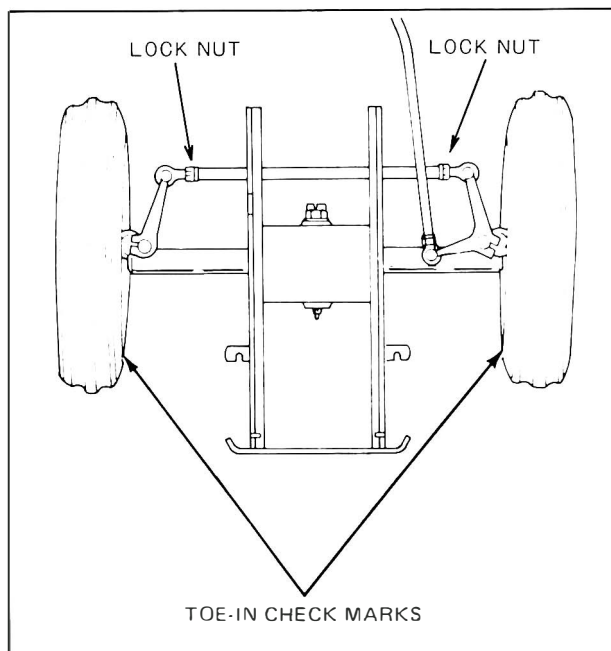

Figure 59 — Checking Toe-In
1. With the front wheels in the straight-ahead position, mark the front of the wheels (not the tires) at wheel hub height (Figure 59). Determine the straight-ahead position by turning the steering wheel from lock to lock and then halfway back.